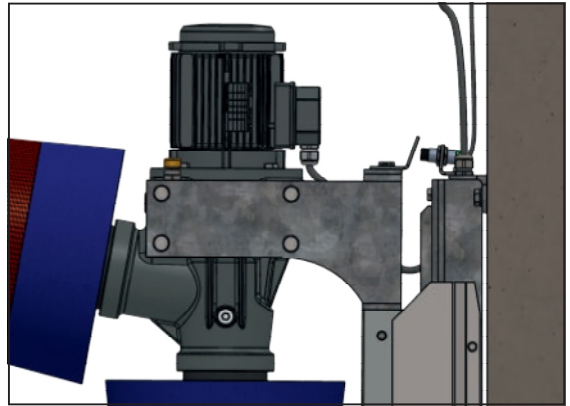

Figure 6: Cable length A-B = 55 cm, sensor distance 8 - 10 mm
7. Check the distance between the sensor and the switch flag (Fig. 6).